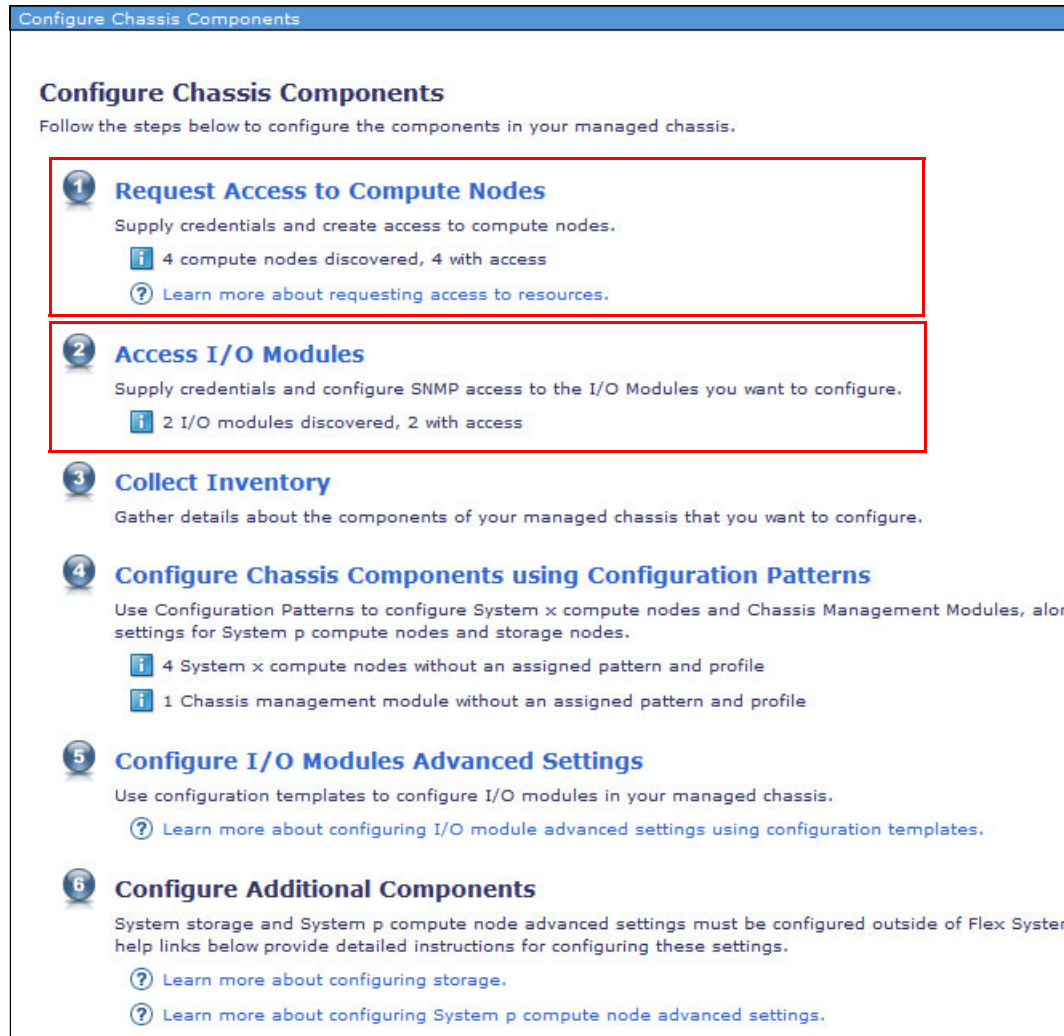

Figure 6-30 Configure Chassis Components window
- In the Configure Chassis Components window, you can verify how many compute nodes have been discovered, and how many nodes have full access, as shown in Figure 6-30. If you do not have access to some compute nodes, click **Request Access to Compute Nodes** to request full access to them.
In the same Configure Chassis Components window, you can also verify how many I/O modules have been discovered, and how many of them have full access, as shown in Figure 6-30.